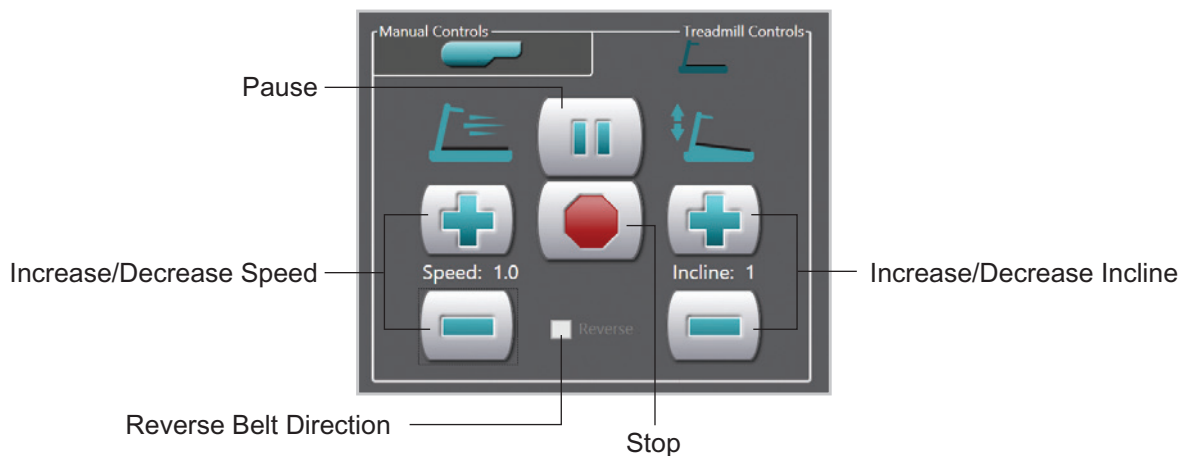

Figure 6-16: Treadmill Controls Tab with Treadmill On
2. When the treadmill is active, the Start button will be replaced by the Pause button which can be used to pause the treadmill session as needed. See Figure 6-16.
3. The (+) and (-) buttons can be used to adjust speed and incline. See Figure 6-16.
4. The treadmill belt direction can be reversed by pausing the treadmill session, then selecting the Reverse check box. See Figure 6-16.